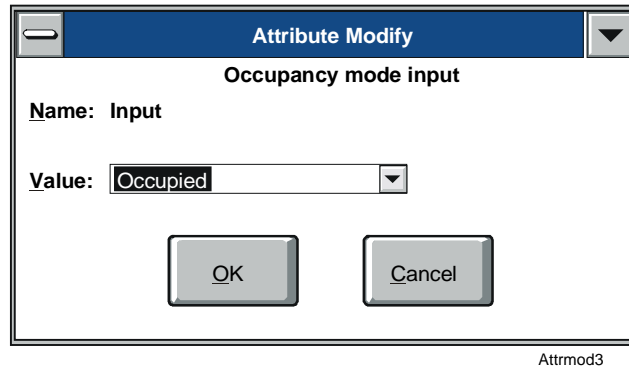

Figure 9-7: Multistate Attribute Modify Dialog Box
1. Double-click on the parameter you want to change. HVAC PRO software displays an Attribute Modify dialog box for the parameter you have selected (Figure 9-7).